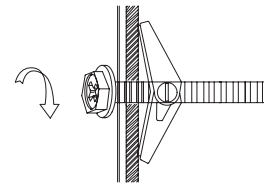

Figure 21
3. Next, secure mounting plate to the wall by tightening toggle bolt assemblies or lag screw(s). See Figure 21.